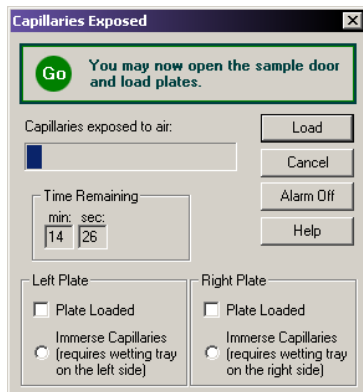

Figure 9.15 Capillaries Exposed Dialog Box
- Click the **Load** on the **Capillaries Exposed** dialog box (Figure 9.15).
5. Click **Load** on the **Capillaries Exposed** dialog box (Figure 9.15).